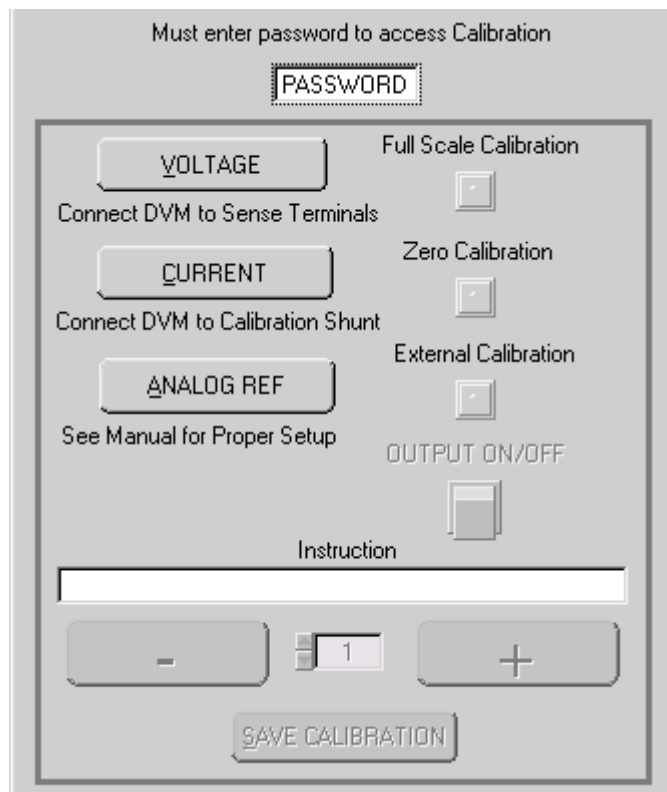

FIGURE 4-2. CALIBRATION WINDOW
7. Click the **Calibrate Access** button on the VXI *plug&play* demo main panel: the button label changes to **Calibrate Close** and the Calibration Window (Figure 4-2) opens with all buttons disabled (grayed out) and PASSWORD appears in the text box near the top of the window. The main panel status display shows calibration, and the voltage and current meters are not visible.